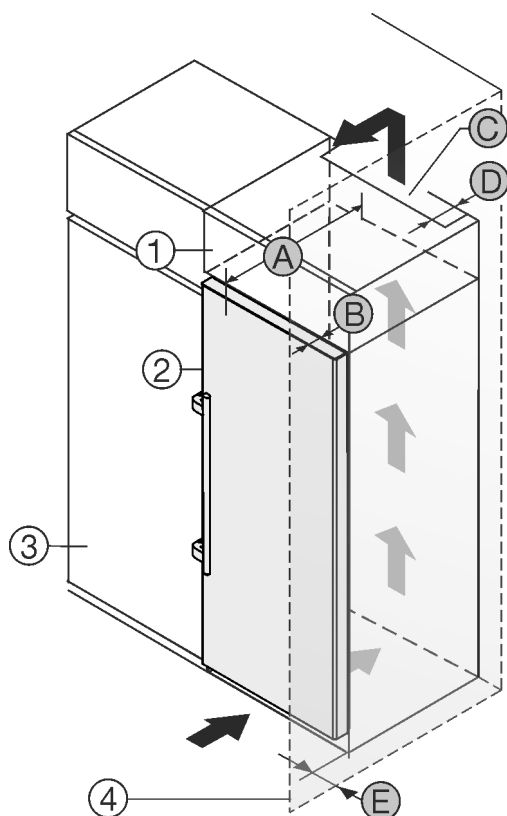

Fig. 2
There must be a ventilation shaft at the depth Fig. 2 (D) of the back of the top cupboard over the entire width of the top cupboard.\*
The ventilation cross-section Fig. 2 (C) must be maintained under the ceiling.\*
In order to be able to fully open the door, the appliance must protrude by the depth of the door Fig. 2 (B) from the front of the kitchen cabinet. The appliance may protrude further depending on the depth of the kitchen cabinets Fig. 2 (3) and whether wall spacers are used.\*